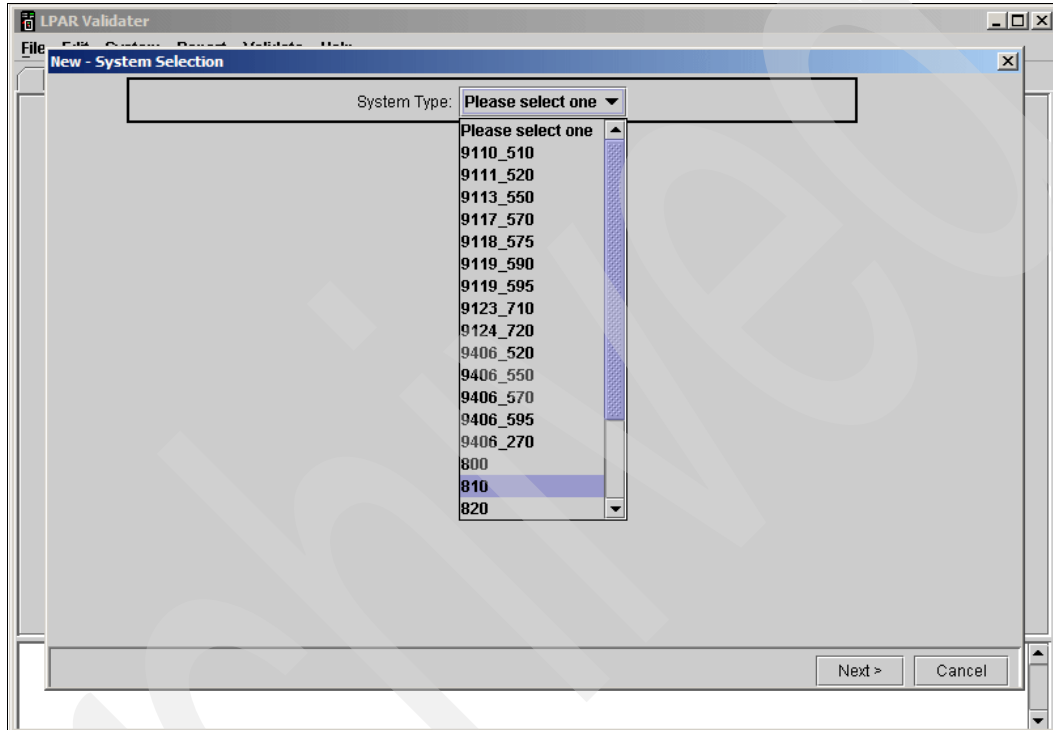

Figure 9-3 Example of LVT initial window
- a. Select **File, New** then the **System Type** from the pull down list (Figure 9-3).